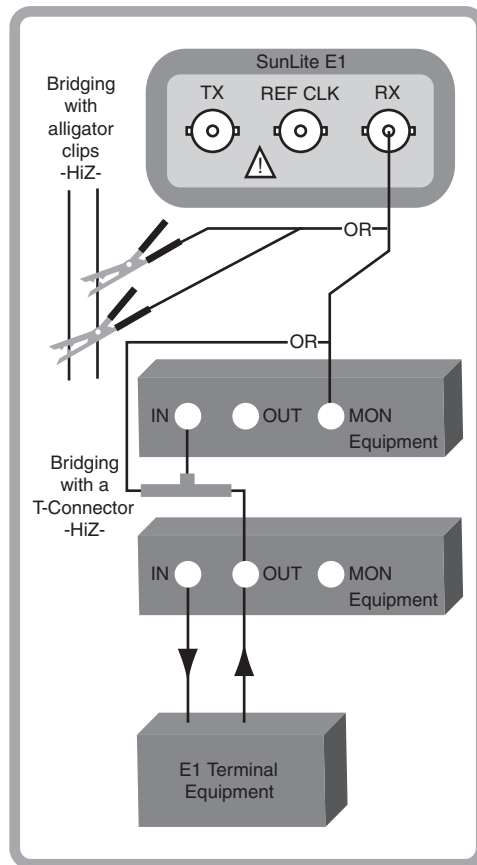

Figure 63 Monitoring an In-Service Circuit
1. Connect to the circuit as in Figure 63.
1. Connect to the circuit as in Figure 63